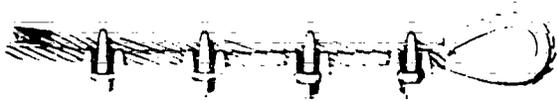

Figure 7-86. Applying U-Bolt Clips
**Application of Rope Clips** U-bolt clips must be attached so the "U" part of the clip is over the dead end of the rope as shown in Figure 7-86.